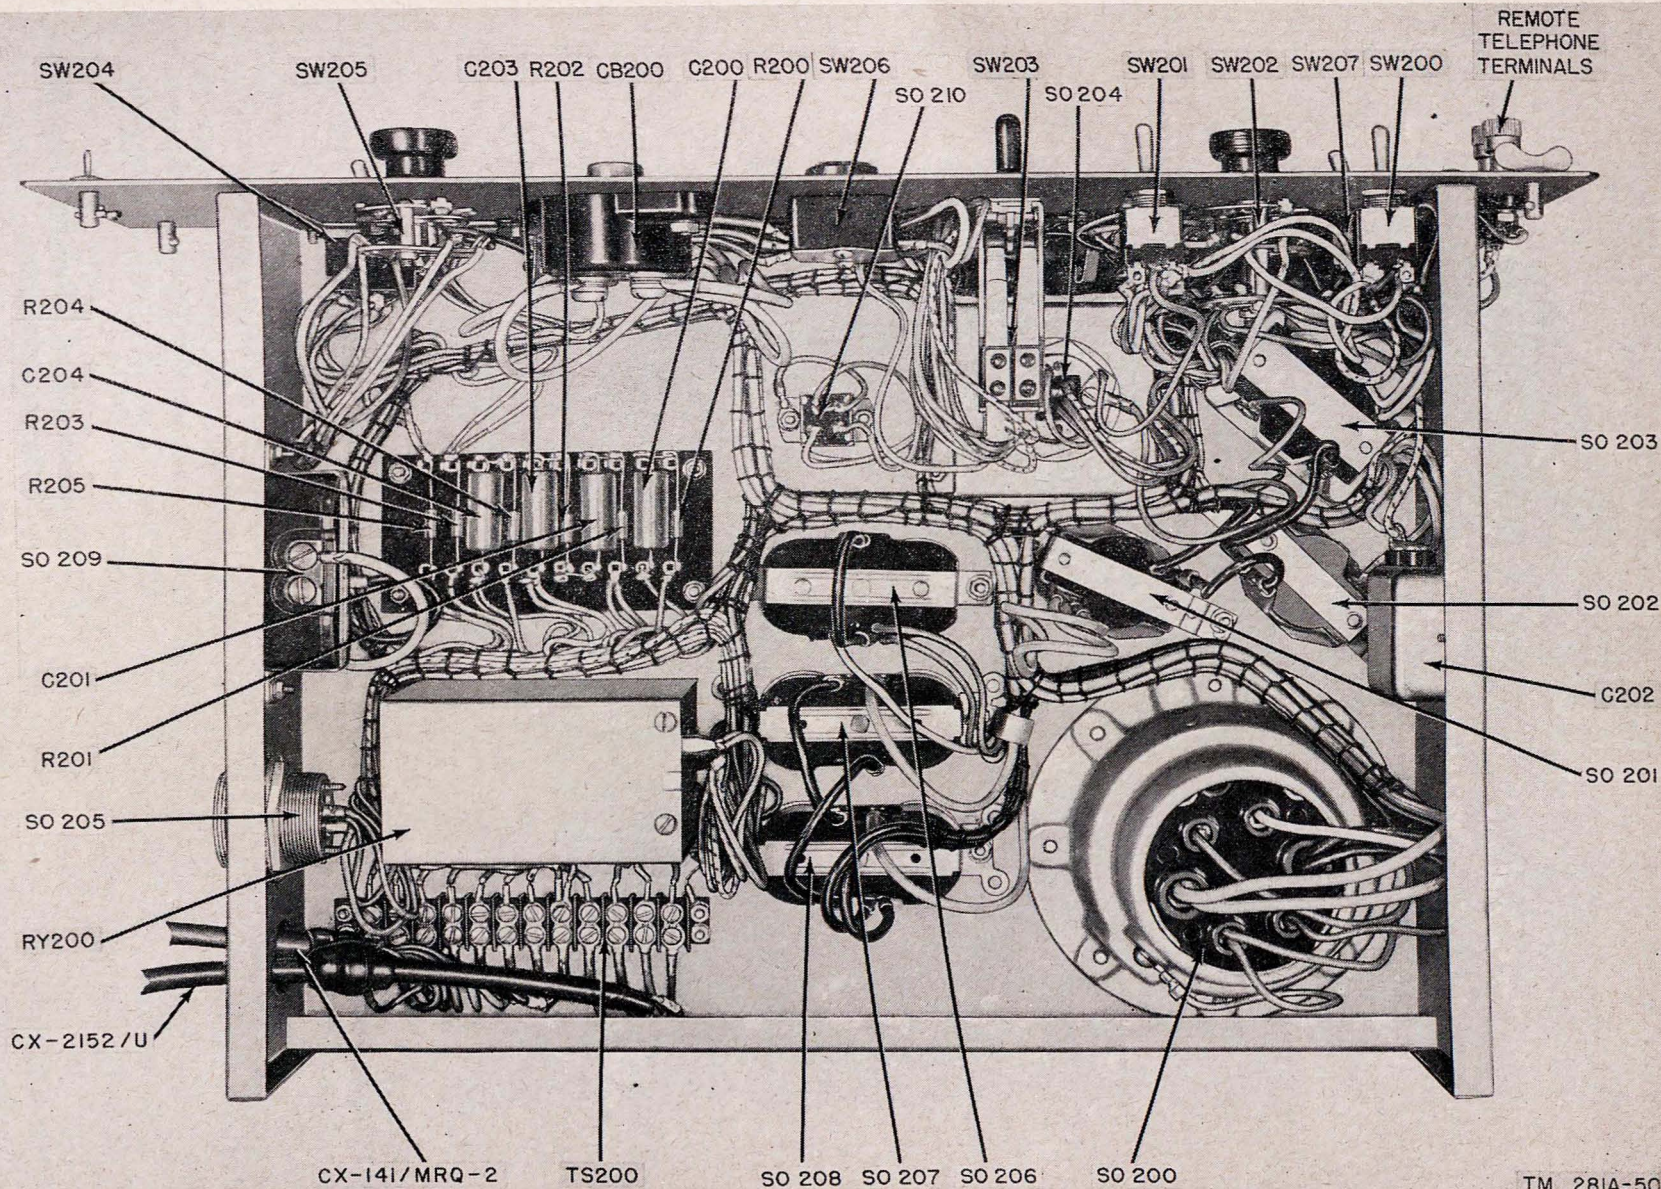

Figure 80. Junction Box JB-70-(\*), top interior view of chassis.
- (1) Before a part is unsoldered, note the position of the leads. If the part, such as a transformer, has a number of connections, tag each of the leads to it.
- (2) Be careful not to damage other leads by pushing or pulling them out of the way.
- (3) Do not allow drops of solder to fall into the equipment because they may cause short circuits.
- (4) A carelessly soldered connection may create a new fault. It is very important to make well-soldered joints because a poorly soldered joint is one of the most difficult faults to find.
- (5) The new part should be placed in exactly the same position as the original one, especially in high-frequency circuits.
- (6) Give particular attention to proper grounding when replacing a part. Use the same ground as in the original wiring. Failure to observe this precaution may result in decreased output or possible oscillation in certain circuits.
b. *Junction Box JB-70-(\*)* (fig. 80). All of the parts of the junction box are readily accessible and easily replaced when the chassis is removed from its case. To remove the junction box from the case in the chest in Radio Set AN/MRC-2C or from the table in Radio Set AN/MRC-2D use the following procedures:
- (1) Disconnect all cords connected underneath and on the right side of the box.
- (2) Disconnect the cord from the junction box to the speech amplifier at the speech amplifier TO JB-70 terminal.
- (3) Disconnect the grounding braid from the bottom of the chassis with a screw driver.
- (4) Disconnect the cords from the REMOTE TELEPHONE TERMINALS.
- (5) Release the four panel locks and pull the chassis directly forward. With a screw driver, disconnect the leads from terminals 9, 10, 11, and 12 of terminal strip TS200 (fig. 80). Pull the cord (Cord CX-143/MRQ-2 in Radio Set AN/MRC-2C, Cord CX-2152/U in Radio Set AN/MRC-2D) through the rubber grommet in the right side of the junction